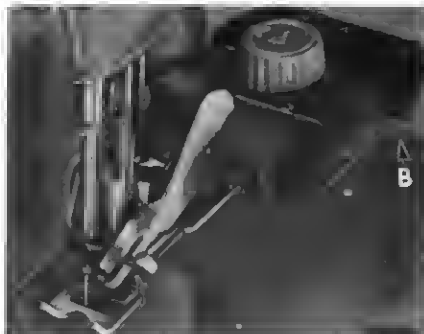

Fig. 10. To Adjust Zigzagger for Straight Stitching
Arrowhead Stitch Pattern 161003  produces a design which is ideal for ornamental purposes. The size of Arrowhead is determined by the bight setting and texture of material. Stitch setting should be short (approximately Na. 30) for a solid effect. For any desired spacing between Arrowheads, pull lever **B**, **Fig. 10, page 10** forward for straight stitching and count number of stitches for a given space. When desired spacing is attained, push lever **B** back for zigzag stitching. Arrowhead is most distinct when bight is set at W and stitch regulator at No. 30.
2. Pull lever **B**, Fig. 10 toward you. Plain sewing can then be done.